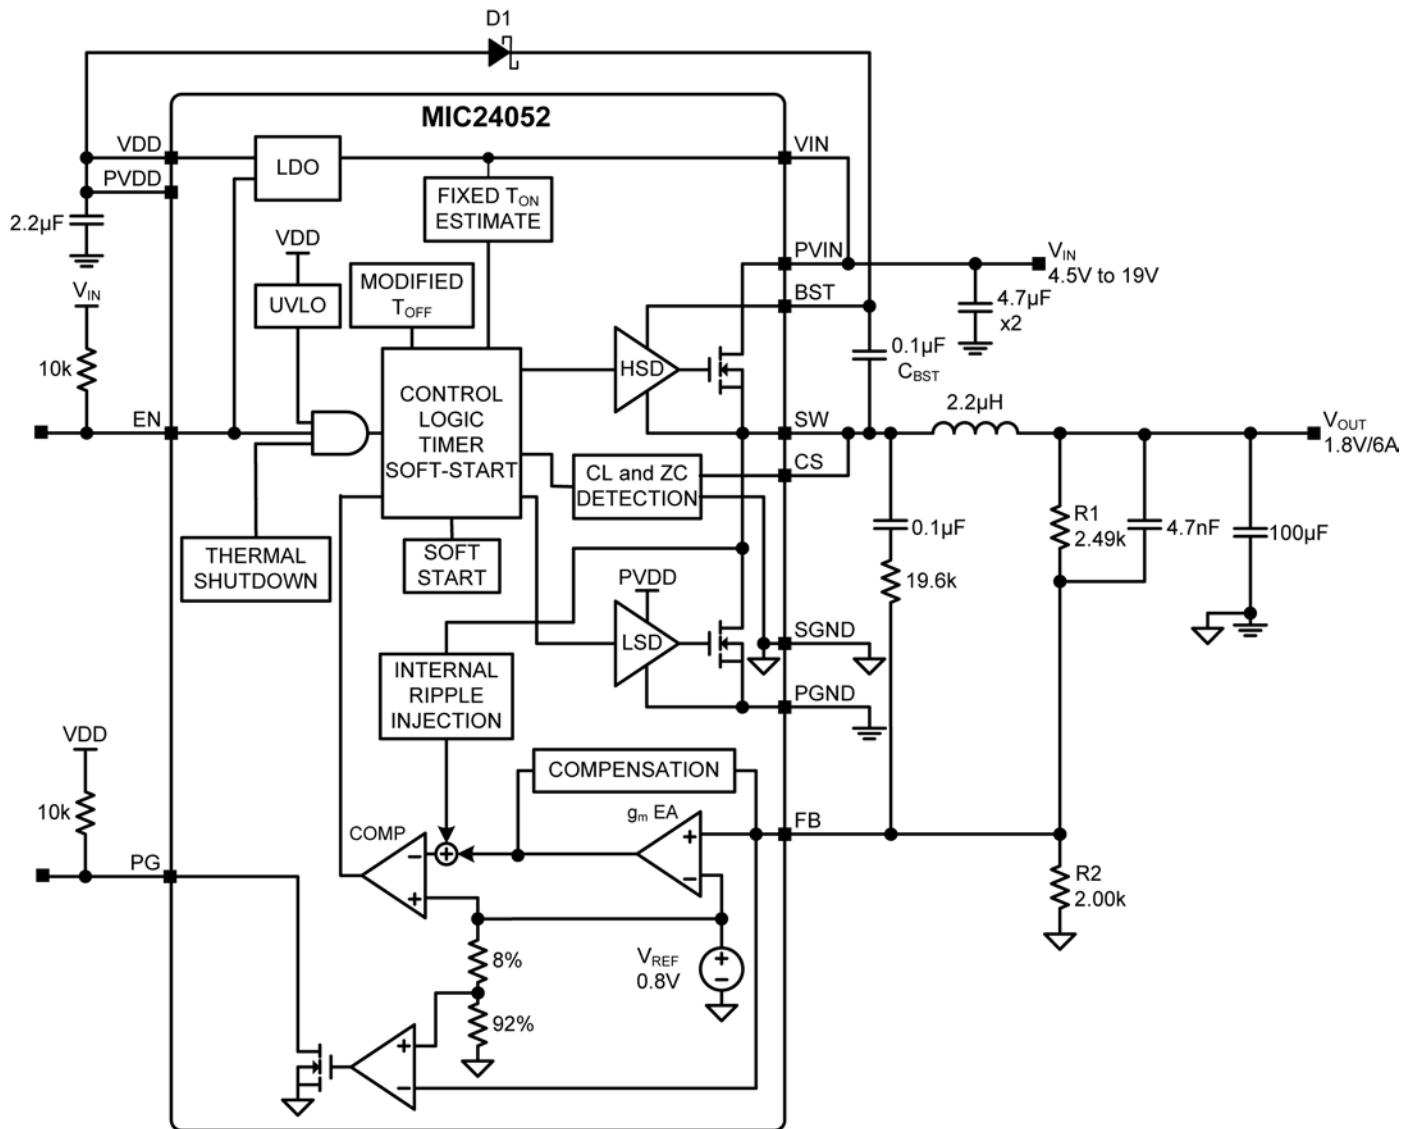

Figure 1. MIC24052 Block Diagram
The MIC24052 is able to operate in either continuous mode or discontinuous mode. The operating mode is determined by the output of the zero cross comparator (ZC) as shown in Figure 1.
The block diagram (Figure 1) shows a bootstrap circuit, consisting of D1 (a Schottky diode is recommended) and  $C_{BST}$ . This circuit supplies energy to the high-side drive circuit. Capacitor  $C_{BST}$  is charged, while the low-side MOSFET is on, and the voltage on the SW pin is approximately 0V. When the high-side MOSFET driver is turned on, energy from  $C_{BST}$  is used to turn the MOSFET on. As the high-side MOSFET turns on, the voltage on the SW pin increases to approximately  $V_{IN}$ . Diode D1 is reverse biased and  $C_{BST}$  floats high while continuing to keep the high-side MOSFET on. The bias current of the high-side driver is less than 10mA so a 0.1 $\mu$ F to 1 $\mu$ F is sufficient to hold the gate voltage with minimal droop for the power stroke (high-side switching) cycle, i.e.  $\Delta BST = 10\text{mA} \times 1.67\mu\text{s}/0.1\mu\text{F} = 167\text{mV}$ . When the low-side MOSFET is turned back on,  $C_{BST}$  is recharged through D1. A small resistor  $R_G$ , which is in series with  $C_{BST}$ , can be used to slow down the turn-on time of the high-side N-channel MOSFET.